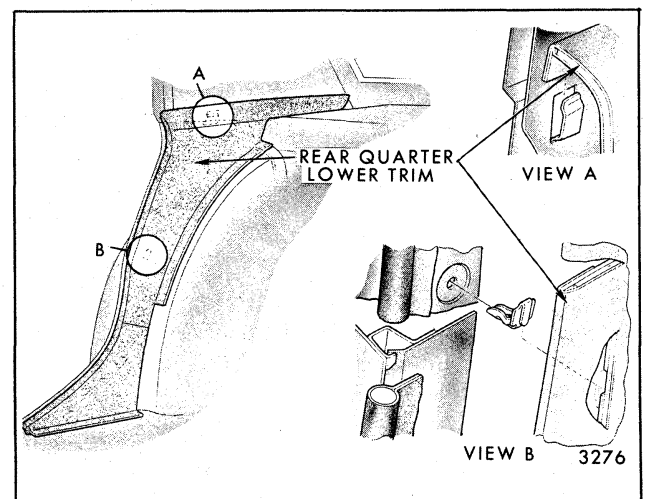

Fig. 6-11-Quarter Trim Assembly Attachment - "C" Four-Door Styles
3. On "C" styles, insert tool BT-7323 or equivalent at each clip location and pry retaining clip from plastic retaining plugs (View "B", Fig. 6-11) and remove trim panel.